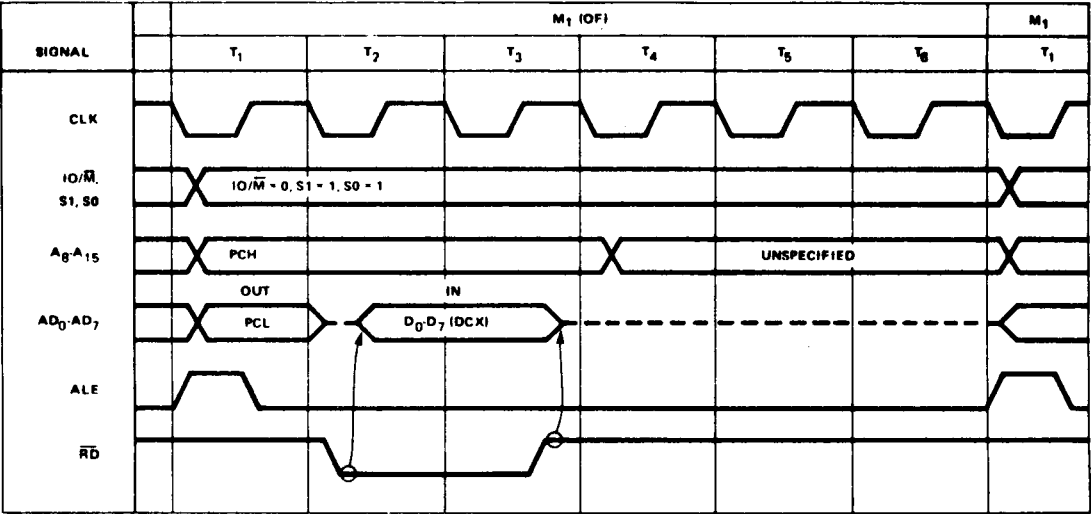
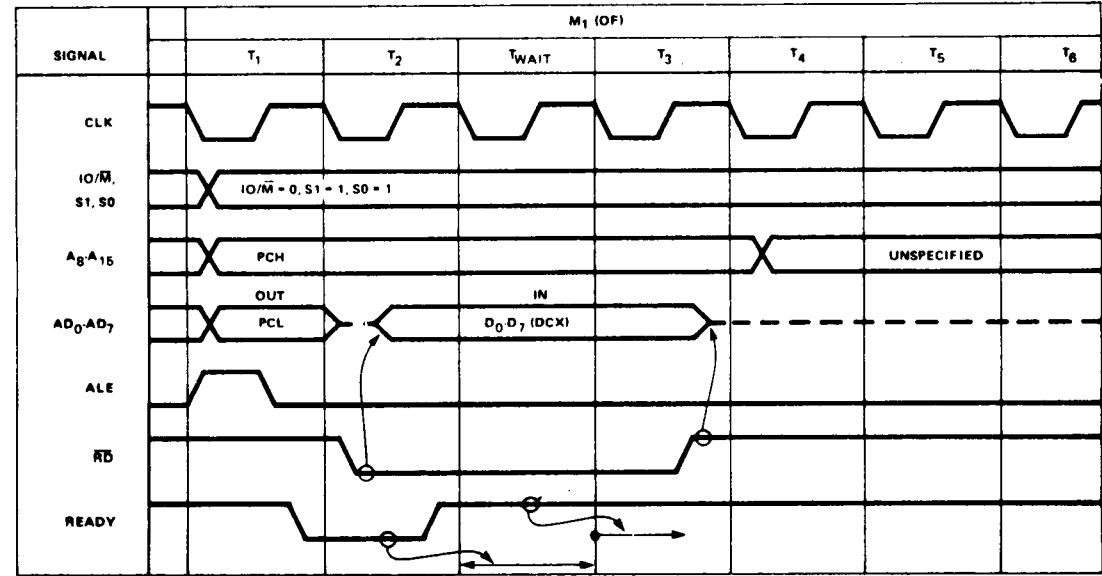

Figure 7-12 OPCODE FETCH MACHINE CYCLE (OF DCX INSTRUCTION)
Figure 7-13 OPCODE FETCH MACHINE CYCLE WITH ONE WAIT STATE
The 8085A also sends out a 16-bit address at the beginning of every machine cycle to identify the particular memory location or I/O port that the machine cycle applies to. In the case of an OF cycle, the contents of the program counter is placed on the address bus. The high order byte (PCH) is placed on the A₈-A₁₅ lines, where it will stay until at least T₄. The low order byte (PCL) is placed on the AD₀-AD₇ lines, whose three-state drivers are enabled if not found already on. Unlike the upper address lines, however, the information on the lower address lines will remain there for only one clock cycle, after which drivers will go to their high impedance state, indicated by a dashed line in Figure 7-12. This is necessary because the AD₀-AD₇ lines are time multiplexed between the address and data buses. During T₁ of every machine cycle, AD₀-AD₇ output the lower 8-bits of address after which AD₀-AD₇ will either output the desired data for a WRITE operation or the drivers will float (as is the case for the OF cycle), allowing the external device to drive the lines for a READ operation.
After the status signals and address have been sent out and the AD₀-AD₇ drivers have been disabled, the 8085A provides a low level on \overline{RD} to enable the addressed memory device. The device will then start driving the AD₀-AD₇ lines; this is indicated by the dashed line turning into a solid line in Figure 7-12. After a period of time (which is the access time of the memory) valid data will be present on AD₀-AD₇. The 8085A during T₃ will load the memory data on AD₀-AD₇ into its instruction register and then raise \overline{RD} to the high level, disabling the addressed memory device. At this point, the 8085A will have finished accessing the opcode of the instruction. Since this is the first machine cycle (M₁) of the instruction, the CPU will automatically step to T₄ as shown in Figure 7-10.
During T₄, the CPU will decode in the intruction register and decide whether to enter T₅ on the next clock or to start a new machine cycle and enter T₁. In the case of the DCX instruction shown in Figure 7-12, it will enter T₅ and then T₆ before going to T₁.
Figure 7-13 is identical to Figure 7-12 with one exception, which is the use of the READY line. As we can see in Figure 7-10, when the CPU is in T₂, it examines the state of the READY line. If the READY line is high, the CPU will proceed to T₃ and finish executing the instruction. If the READY line is low, however, the CPU will enter T_{wait} and stay there indefinitely until READY goes high. When the READY line does go high, the CPU will exit T_{wait} and enter T₃, in order to complete the machine cycle. As shown in Figure 7-13, the external effect of using the READY line is to preserve the exact state of the processor signals at the end of T₂ for an integral number of clock periods, before finishing the machine cycle. This 'stretching' of the system timing has the further effect of increasing the allowable access time for memory or I/O devices. By inserting T_{wait} states, the 8085A can accommodate even the slowest of memories. Another common use of the READY line is to single-step the processor with a manual switch.
Figure 7-14 shows the timing of two successive MEMORY READ (MR) machine cycles, the first without a T_{wait} state and the second with one T_{wait} state. The timing during T₁-T₃ is absolutely identical to the OPCODE FETCH machine cycle, with the exception that the status sent out during T₁ is $\overline{IO/\overline{M}} = 0$, S₁ = 1, S₀ = 0, identifying the cycles as a READ from a memory location. This differs from Figure 7-12 only in that S₀ = 1 for an OF cycle, identifying that cycle as an OPCODE FETCH operation. Otherwise, the two cycles are identical during T₁-T₃.